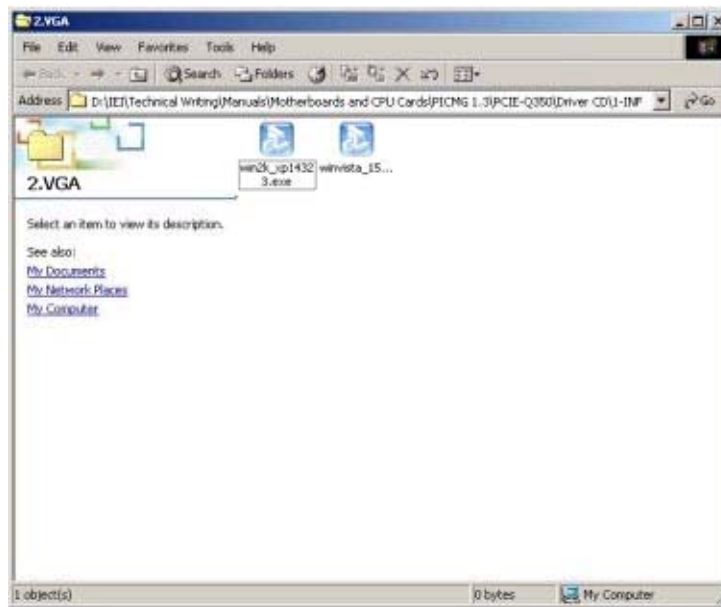

Figure 7-10: Select the Operating System
Step 2: A new window opens. See **Figure 7-10**.
Step 3: Click on the VGA driver installation icon shown in **Figure 7-10** according to the operating system of the system.